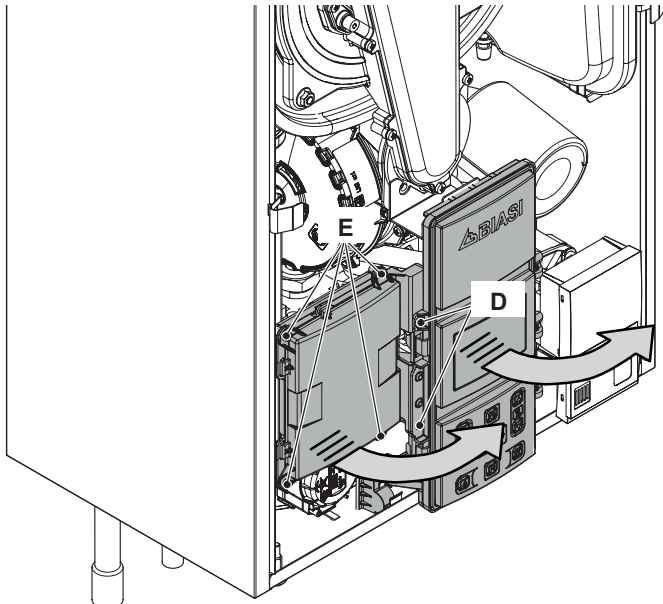

Figure 2.5
- 2 Unscrew the screw "D" and "E" (Figure 2.5).